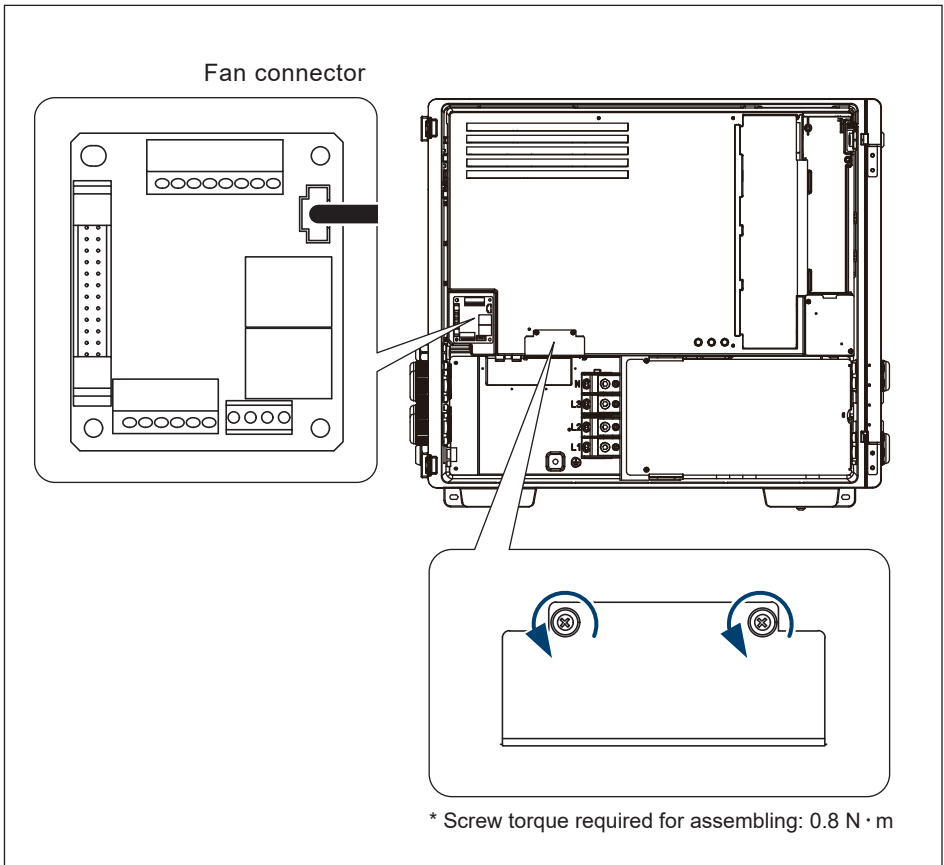

Figure 5-13: Internal fan 2 location & remove the shield cover
- (1) Disconnect the power connector on the COMM. board. (**Figure 5-13**)